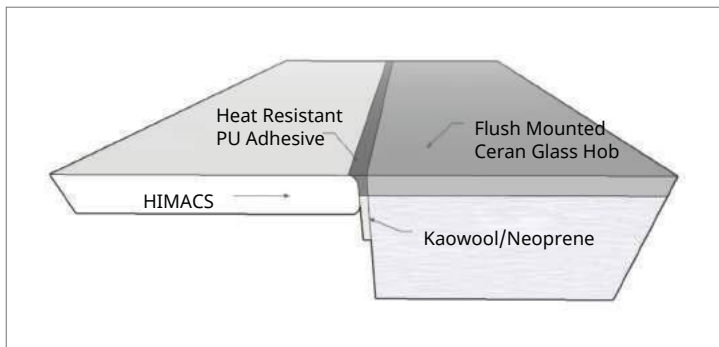

Fig.6
- Fix the flush mounting hob according to manufacturer installation guides with its foreseen fixing items. When the hob is in right position and fixed, close the gap between the edge of the cutout and the flush-mounted-hob with an moisture and heat resistant permanent elastic adhesive (exp. Elastic PU adhesive from Sika) (Fig.6)
- adhesive from Sika) (Fig.6)